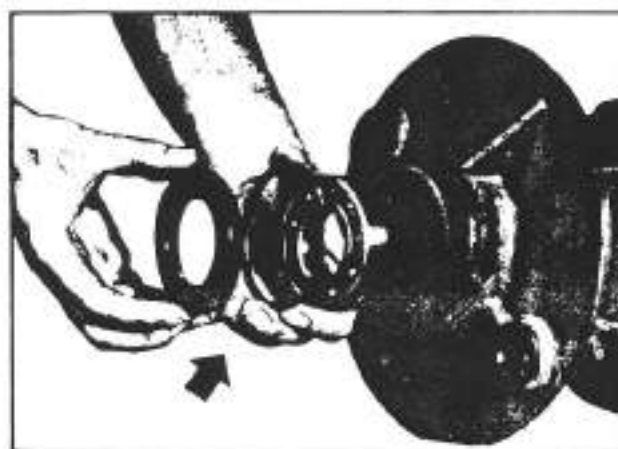

Fig. 3-54. Removal of the axle shaft components
- From the opposite side of the hub (see figure 3-54) take off in order: the oil seal, the retaining ring and the bearing.